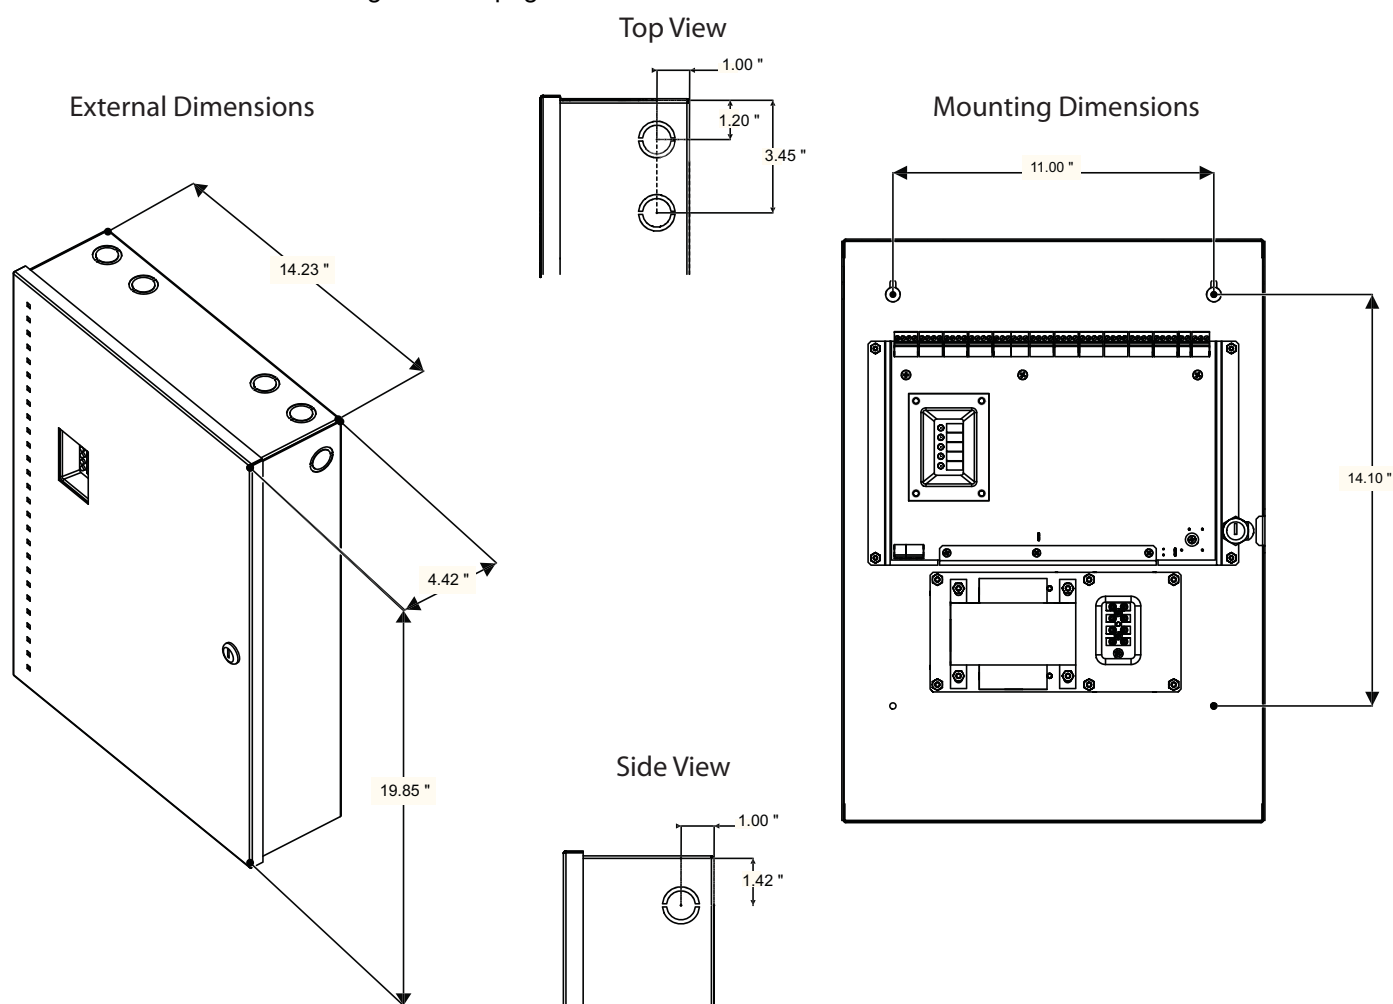
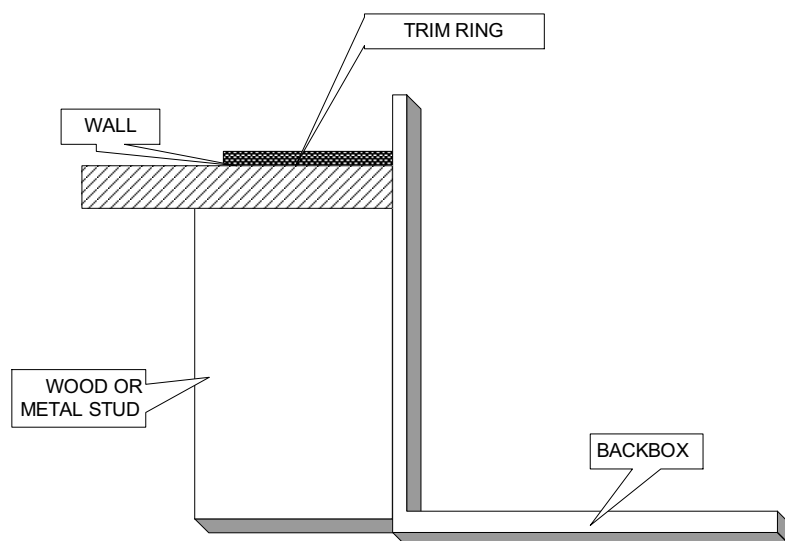
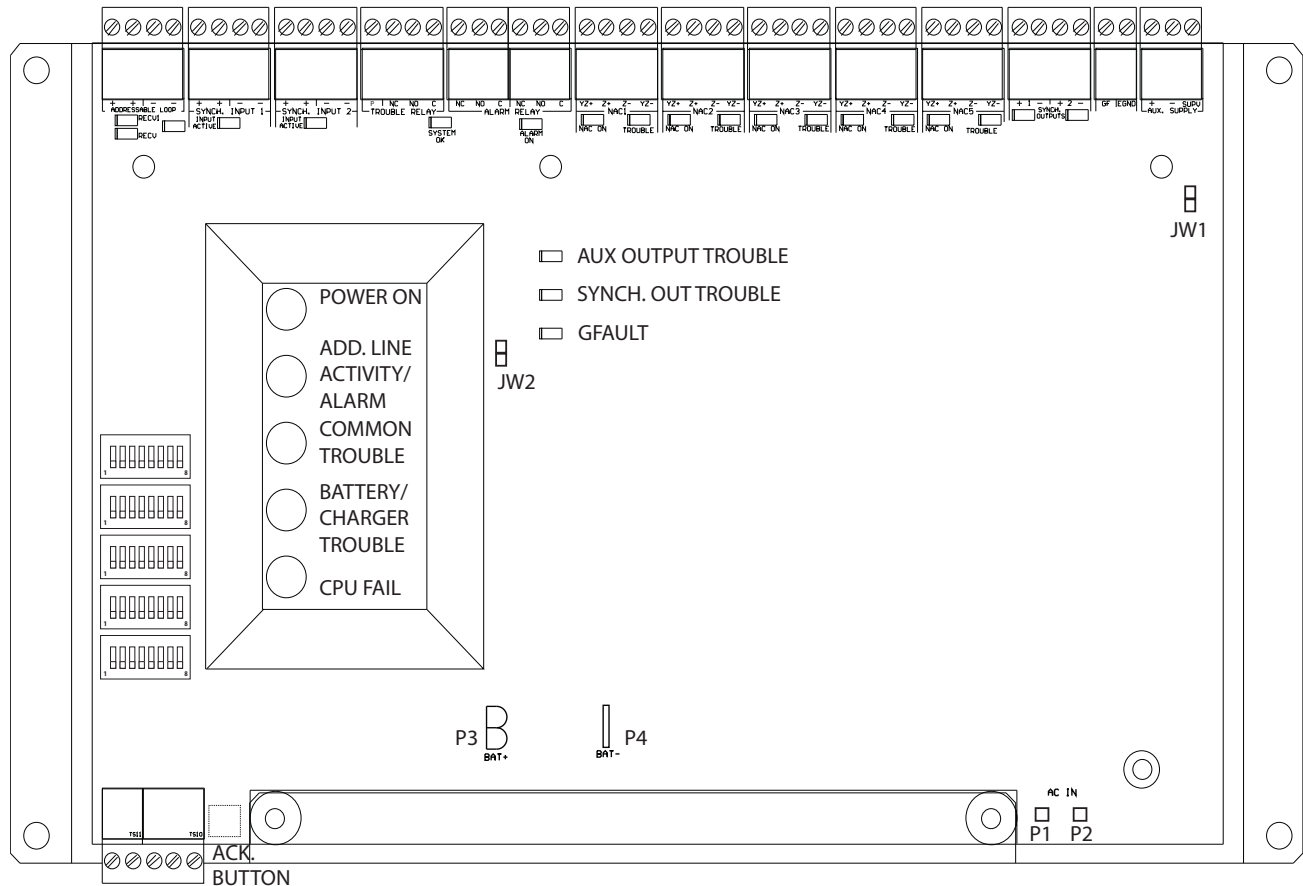

Figure 1 INX-10A Dimensions
Figure 3 Flush mounting the enclosure
Figure 4 INX-10A Chassis Board Connectors and Jumpers
The INX-10A can be surface mounted with four screws as shown in Figure 1 or flush mounted as shown in Figure 3 on page 17.
1. Using the INX-10A back plate as a template, mark the top of the two mounting hole locations 11" apart as shown in Figure 1 INX-10A Dimensions.
Note: Figure 3 shows a cross-section of the semi-flush mounted backbox and the trim ring. Allow a minimum depth of 1" above the wall surface for proper door opening.
The Main Chassis is pre-installed in the INX-10A Enclosure as shown in Figure 1 INX-10A Dimensions on page 16. The connections are shown in Figure 4 INX-10A Chassis Board Connectors and Jumpers on page 19 and are described in Table 3 INX-10A Chassis Board Connectors and Jumpers on page 19.